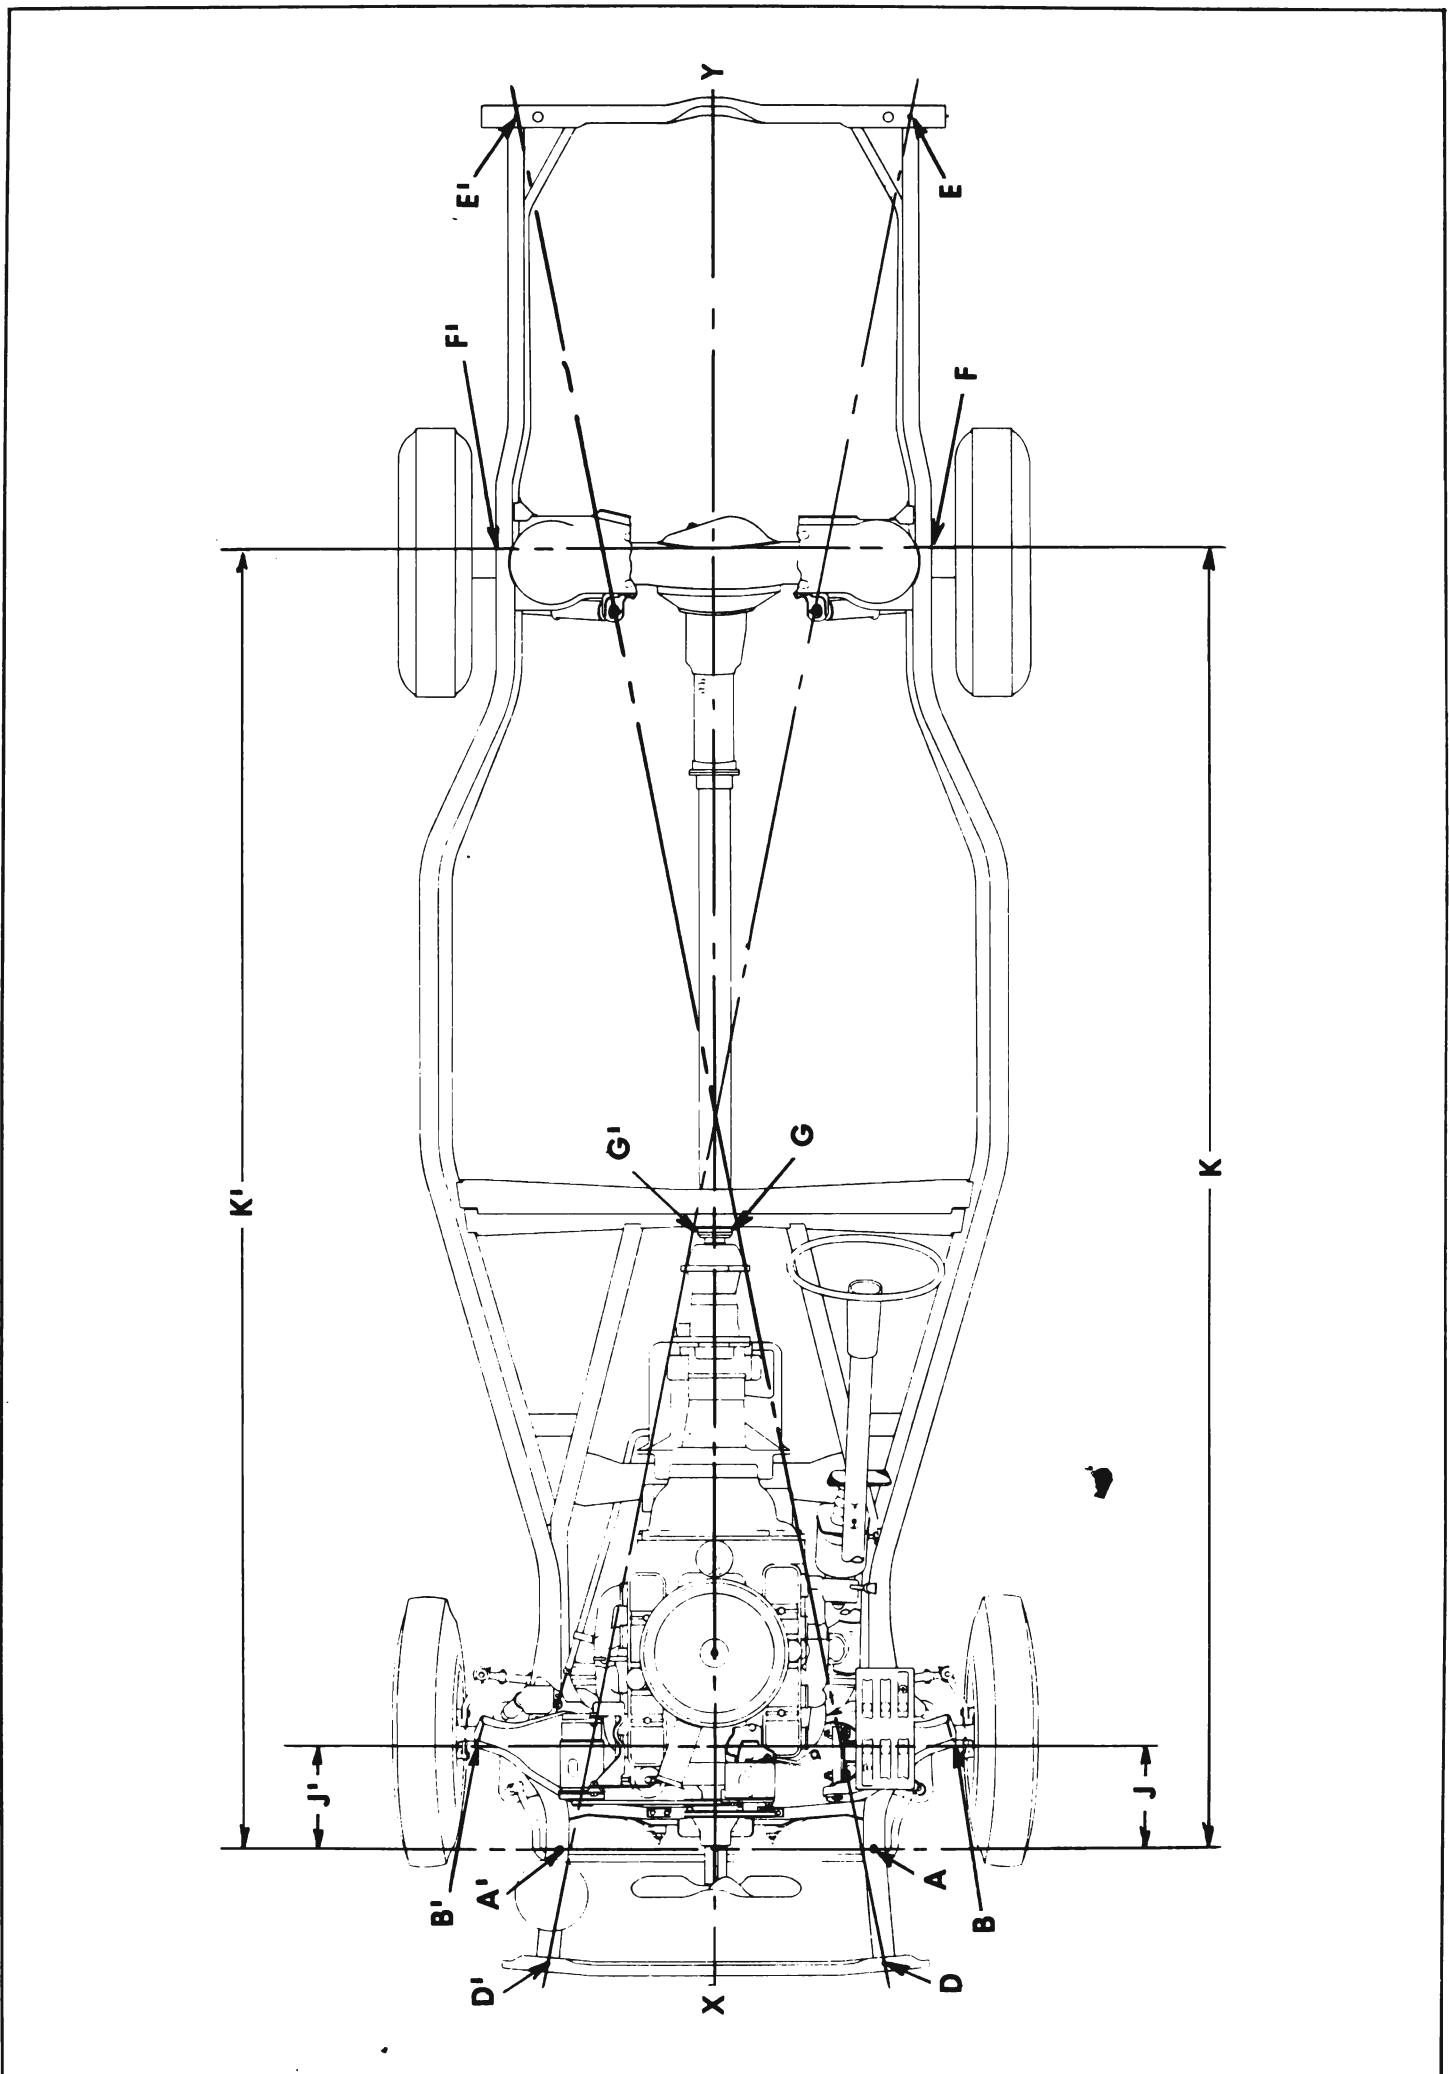

Figure 12-1—Checking Alignment of Frame and Suspension
1. Using a plumb bob, extend the following points to the floor and mark where point of plumb bob touches floor, as shown in figure 12-1.